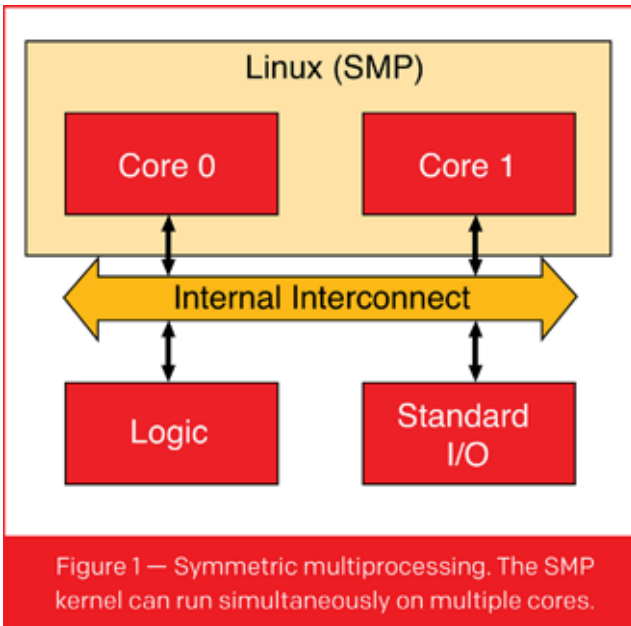
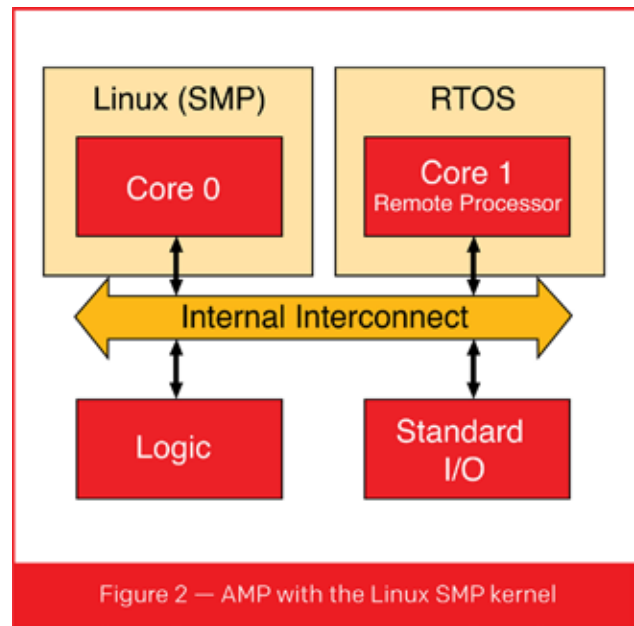

Figure 1. Symmetric multiprocessing. The SMP kernel can run simultaneously on multiple cores.
Figure 2. AMP with the Linux SMP kernel
With respect to multiprocessing, the Linux kernel comes in two flavors: the uniprocessor (UP) kernel and the symmetric multiprocessor (SMP) kernel. The UP kernel can only run on a single core, regardless of the number of available cores. AMP systems can incorporate two or more instances of the uniprocessor kernel. The SMP kernel, however, can run on one core or simultaneously on multiple cores (Figure 1). An optional kernel command line parameter controls the number of cores used by the SMP kernel following system initialization. Once the kernel is running, various command line utilities control the number of cores assigned to the
The Remote Processor (remoteproc) Framework is the Linux component that is responsible for starting and stopping individual cores (remote processors), as well as for loading a core's software in an AMP system. For example, we can dynamically reconfigure the SMP system shown in Figure 1 into the AMP system shown in Figure 2, and then back again to SMP, using the capabilities of remoteproc.